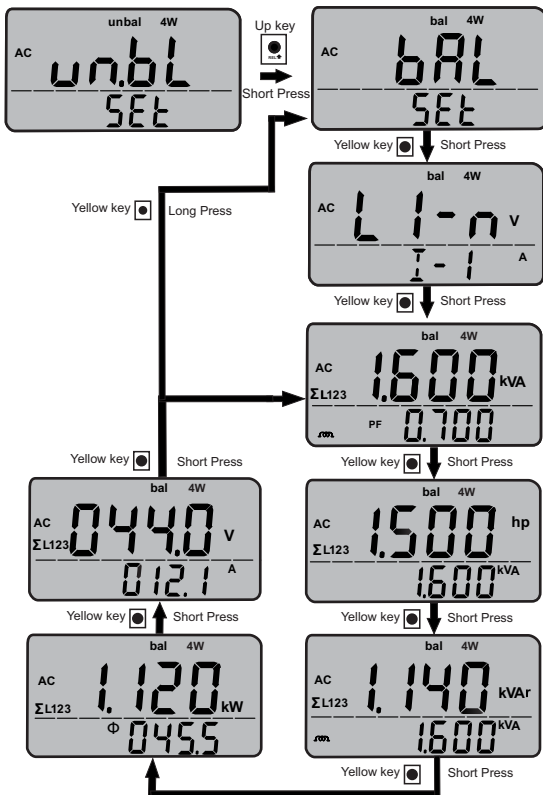

Fig 11.2.2 Power measurement 3-phase 4-wire balanced load
- If we press function (Yellow) key then we can scroll through all above measured parameter one by one. Refer Fig 11.2.2.